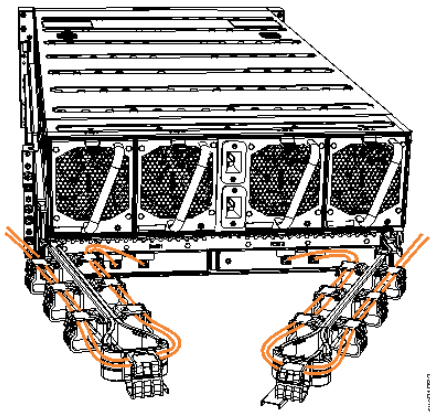

Figure 141. Example of SAS cables routed through the cable management arms
8. Route the SAS cables through the cable management arms, as shown in Figure 141 on page 176.